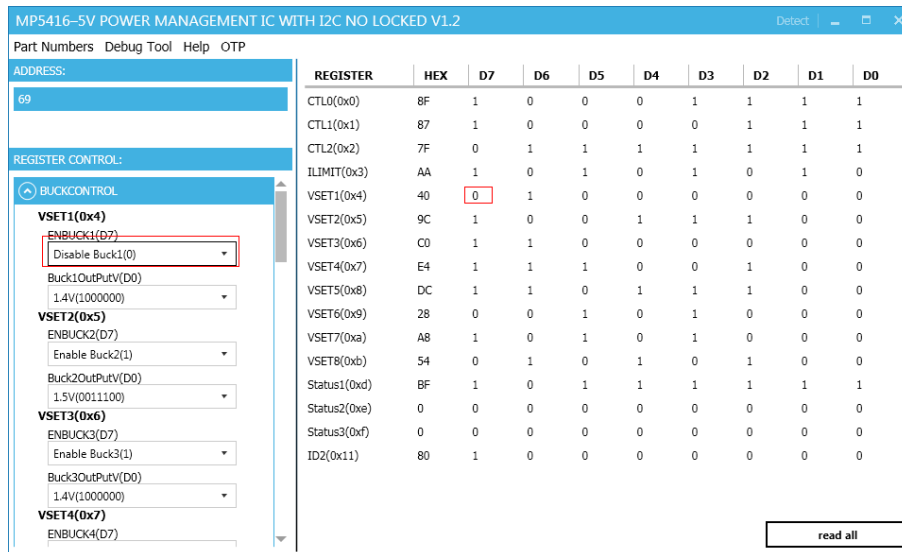

Figure 11: Refer to Datasheet to Translate 0’s and 1’s
- Click the “Read All” button to update values. The changed information of the item will appear on the right side (see Figure 11).